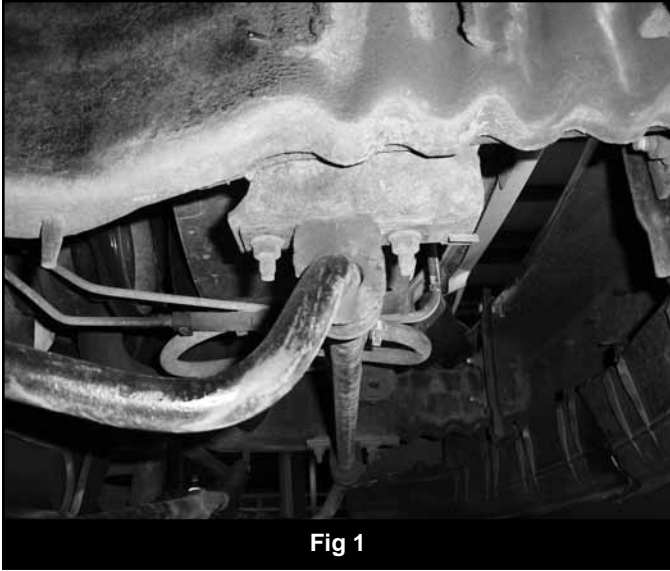

Fig 1
4. Disconnect the anti-sway bar (if equipped) from the frame, retain hardware. (Fig 1)